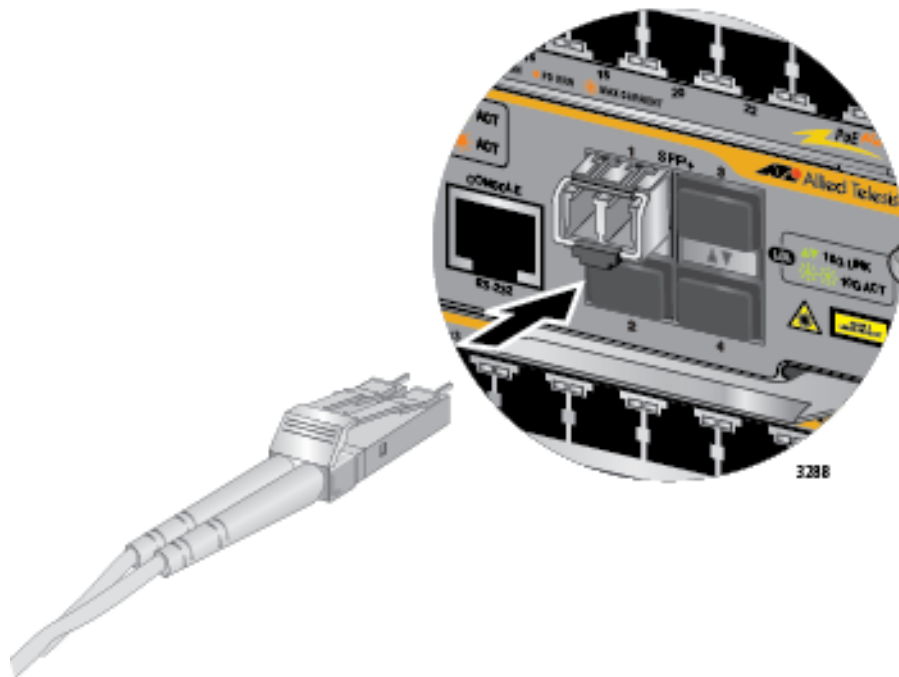

Figure 99. Attaching a Fiber Optic Cable to an SFP+ Transceiver in the AT-SBx81CFC960 Controller Fabric Card
5. Connect the fiber optic cable to the port on the transceiver, as shown in Figure 99 on page 162. The connector should snap into the port.